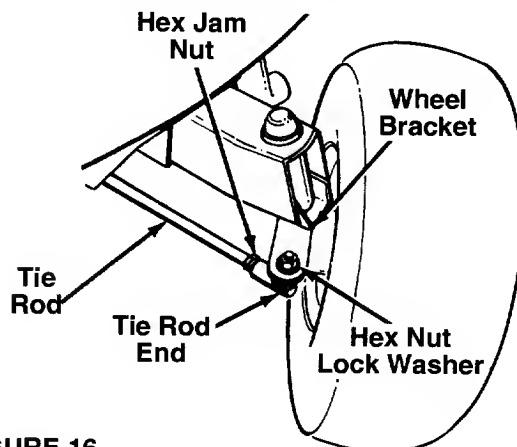

FIGURE 16.
1. Remove the hex nut and lock washer, and drop the tie rod end from the axle bracket. See figure 16.